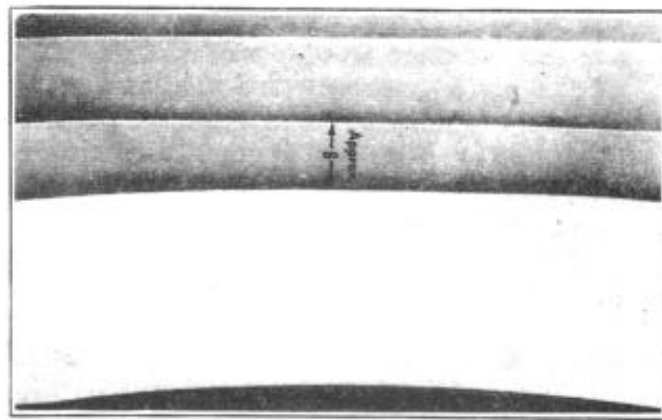

FIGURE 76
**NOTE: The first seam at rear of headlining should be approximately six inches from inside edge of roof panel to rear window flange as shown in Figure 76.**